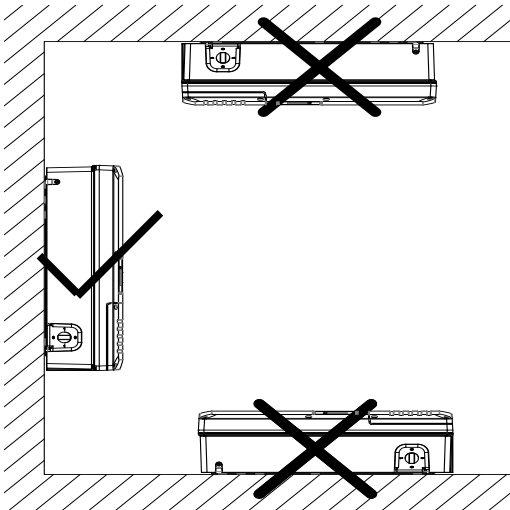
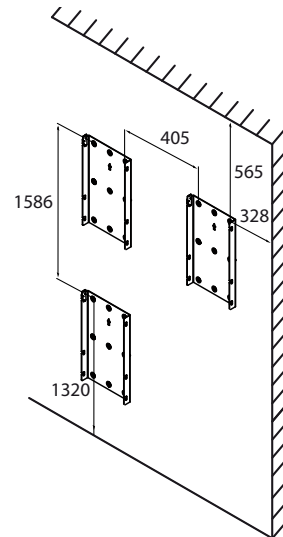

Figure 9: Instructions for wall mounting
Figure 10: Drill stencil for wall mounting with minimum clearances (in mm)
- Minimum clearances for assembly: see Figure 9 and Figure 10 on page 20 and Figure 11 on page 21.
NOTE: The minimum clearances between two inverters, or the inverter and the ceiling/floor have already been taken into account in the diagram (see Figure 10 on page 20).